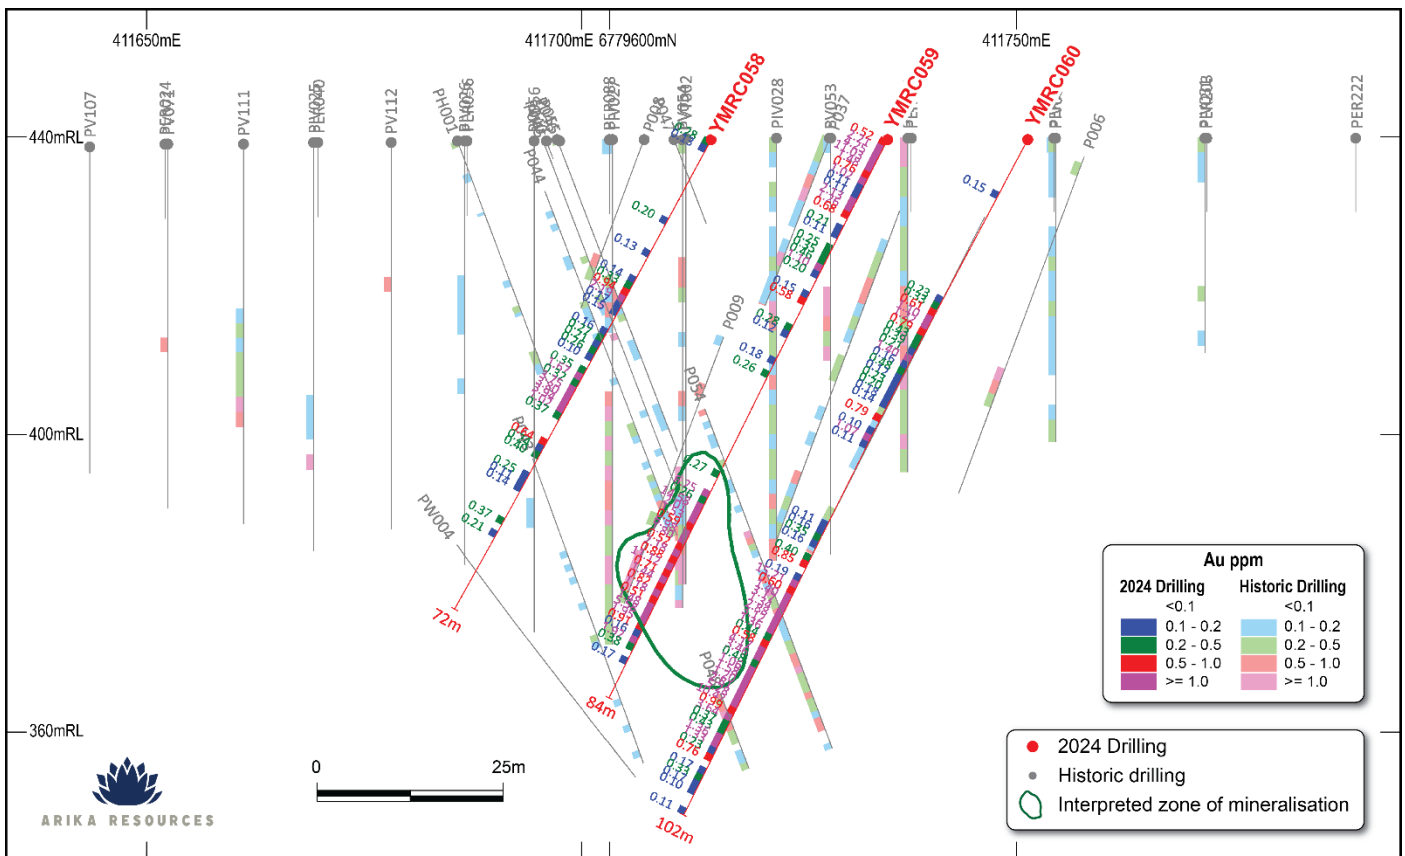
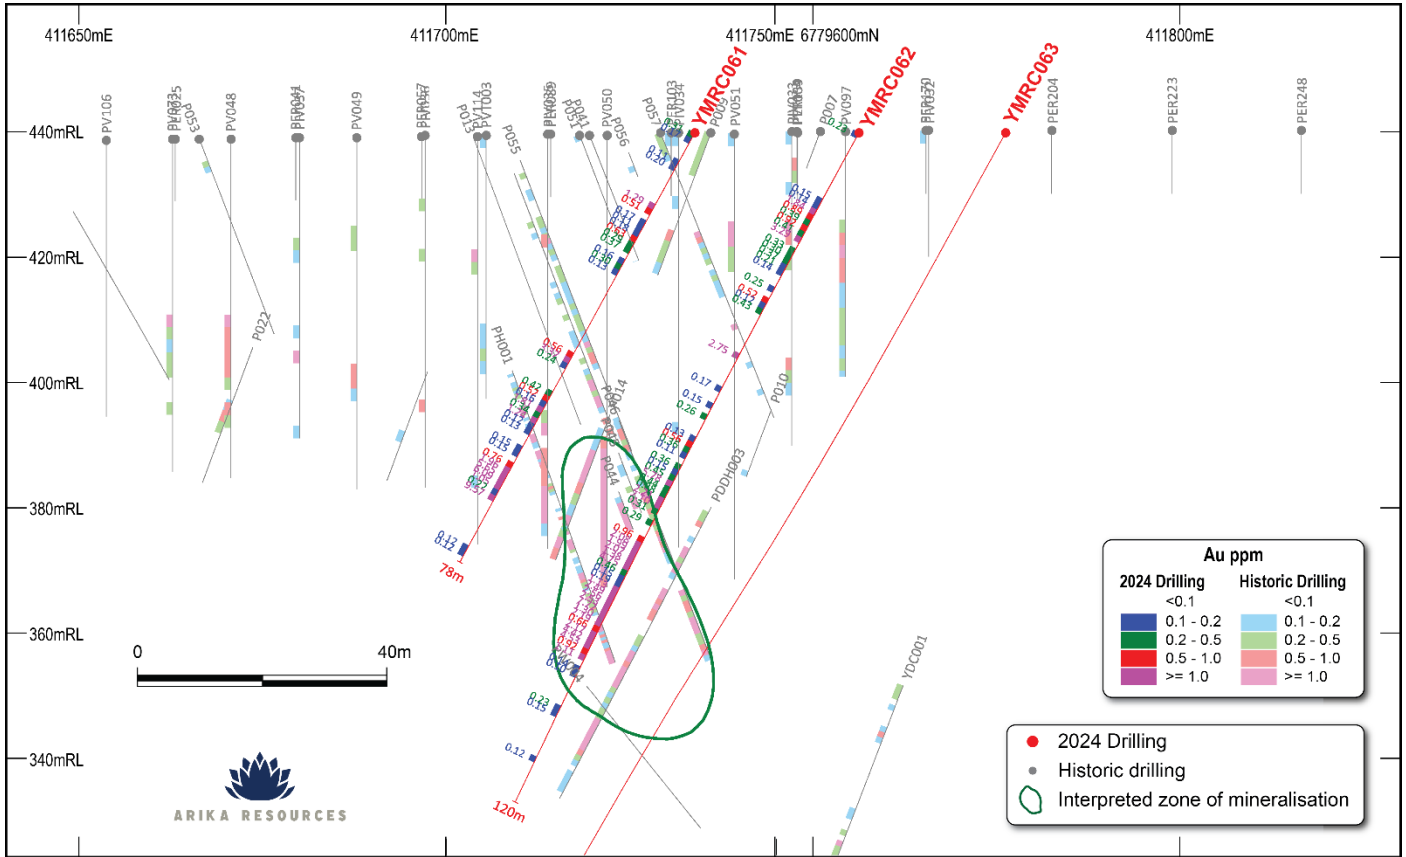

Figure 1 : Cross section with drillholes YMRC058, YMRC059, and YMRC060 assay results and historical drilling
Figure 2 : Cross section with drillholes YMRC061, and YMRC062 assay results and historical drilling
***As can be seen in Figures 1, 2 and 4, there is limited historical drilling below 60m, and these initial results from our maiden program at the Pennyweight Point prospect are already delivering thick, high-grade results.”***
Assay results from a further 9 drillholes at Pennyweight Point, have confirmed and extended high-grade gold mineralisation, with significant thick intercepts as well as numerous other gold intervals (Figure 1 and Figure 2), including:
Importantly, as shown in the Figure 1 cross-section below, significant thick high-grade intercepts have been observed outside the historical interpreted mineralised zone (green outline), expanding the known mineralisation. A second exceptional 30m intercept @ 2.36 g/t Au (YMRC060) can be seen outside the historical interpreted mineralisation at depth, showing the mineralisation is open at depth and down plunge, whilst still at shallow depths.
Similarly, as shown in the Figure 2 cross-section of drillholes YMRC061 and YMRC062, a significant high-grade intercept of 13m @2.60 g/t Au can be seen validating historical results in the historically interpreted mineralised zone, but significant intercepts can clearly be seen close to surface and slightly west of this zone. Assay results for YMRC063 are pending.